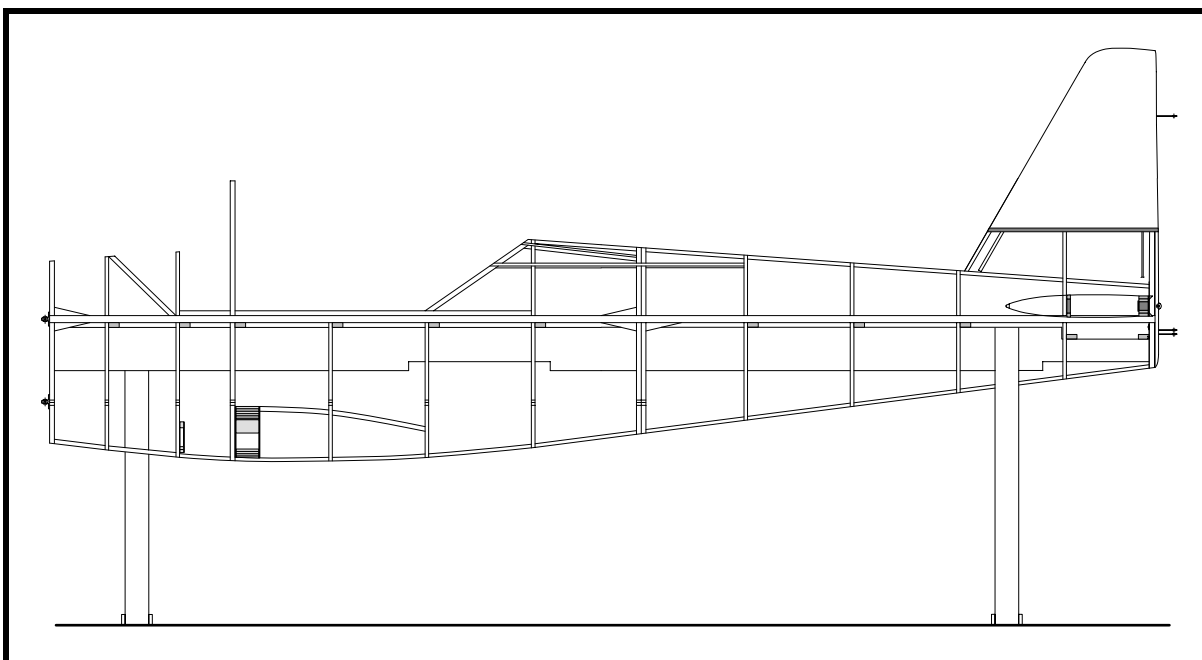

Figure 34
- ❑ Remove the forward top center longeron and the tank support you just made. Fit diagonal frame No. 2 in place as shown in Drawing No. 314 and the detail showing the installation of this frame. It is very important that this frame is installed exactly as shown. If you compare this to the windshield, it will not make sense to you right now, but do it according to the drawing anyway. See Figure 34.